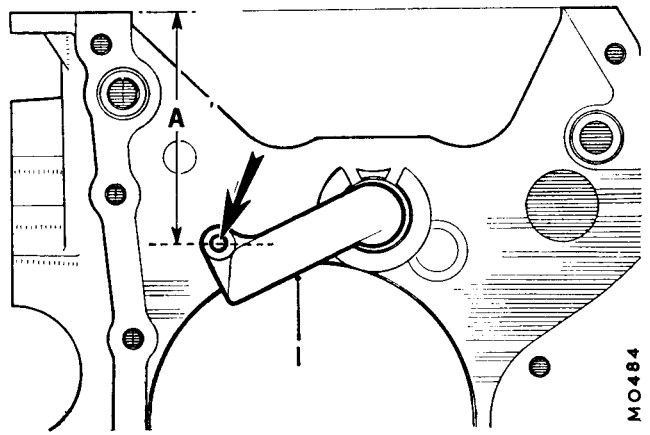

Fig. Fa.66
3. Refer to Fig. Fa.66. Measure down from the joint face on the outside of the casing  $3\frac{19}{32}$  in. (91.3 mm.) and from this point mark a horizontal line across the casing as indicated. Place the reservoir upside-down on the outside of the casing with its spigot located in the idler gear bearing bore and with its securing lug positioned centrally over the horizontal marking. Indent this position; remove the reservoir and drill through the casing using a  $\frac{3}{32}$  in. (7.14 mm.) drill; place a piece of Plasticine inside the casing where the hole will break through to trap any swarf.